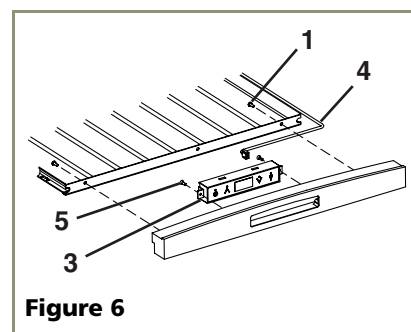

Figure 6
2. Remove the two screws (**Figure 6, 1**), securing trim to wine rack assembly (**Figure 6, 2**).
Note: Your model will contain an electronic display panel (**Figure 6, 3**) in the middle level trim piece. After removing the trim screws, and gently pulling the trim from its location, a wiring harness connector (**Figure 6, 4**) will become visible. Unplug the connector.